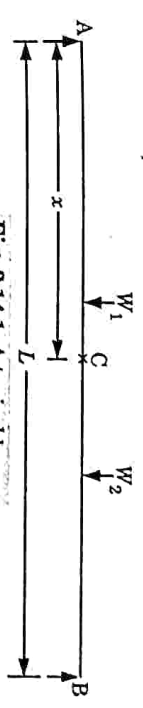
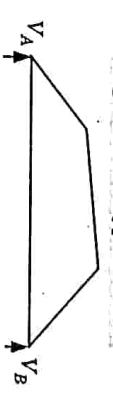

Fig. 3.14.1. A typical beam.
Fig. 3.14.2. M/EI diagram.
- Now, consider the simple supported beam shown in Fig. 3.14.1 and  $\frac{M}{EI}$  diagram in Fig. 3.14.2 respectively.